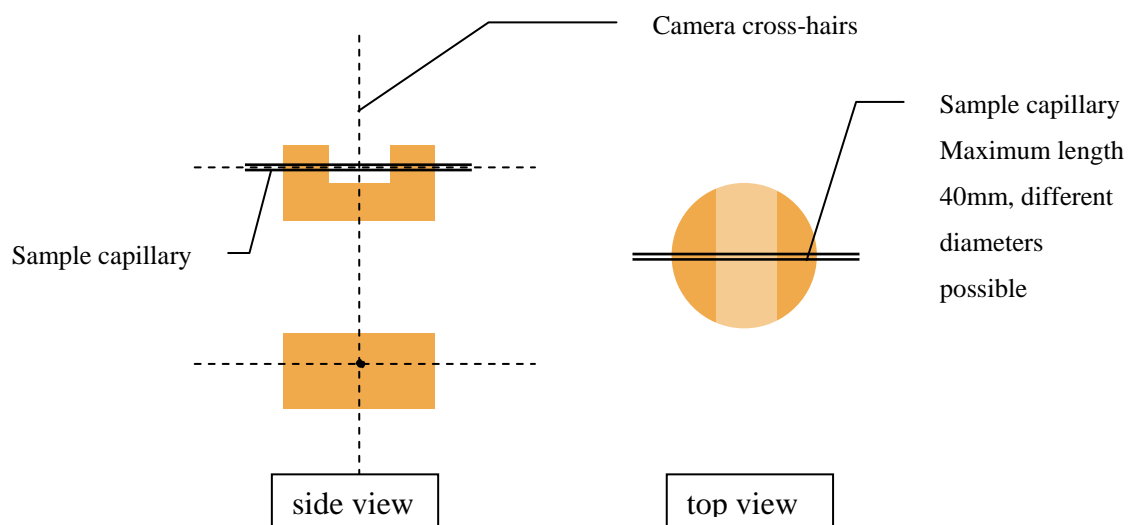

Figure 8 Sample holder for PheniX cryostat
- Mount your sample capillary on to the PheniX brass sample holder as shown in Figure 8. Use a small amount of vacuum grease to secure the capillary, if necessary. Aluminium capillaries are available and improve thermal contact.
- Check sample alignment (Figure 8)